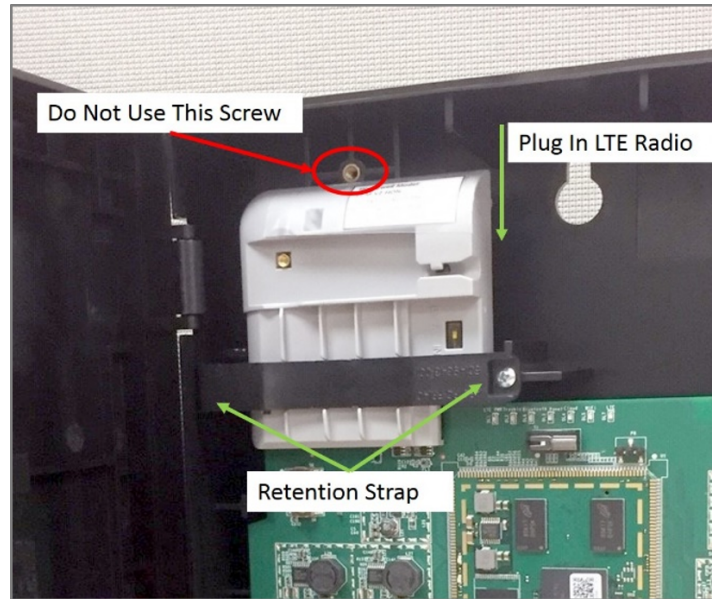

Figure 4.6: Installing the Cellular Module
4. On the top edge of the gateway, plug the cellular module onto the 40-pin expansion slot (see Figure 4.6).
5. Secure the cellular module with the retention strap and a screw, which come with the module (see Figure 4.6).
3. Remove the retention strap screw and the retention strap (see Figure 4.6).